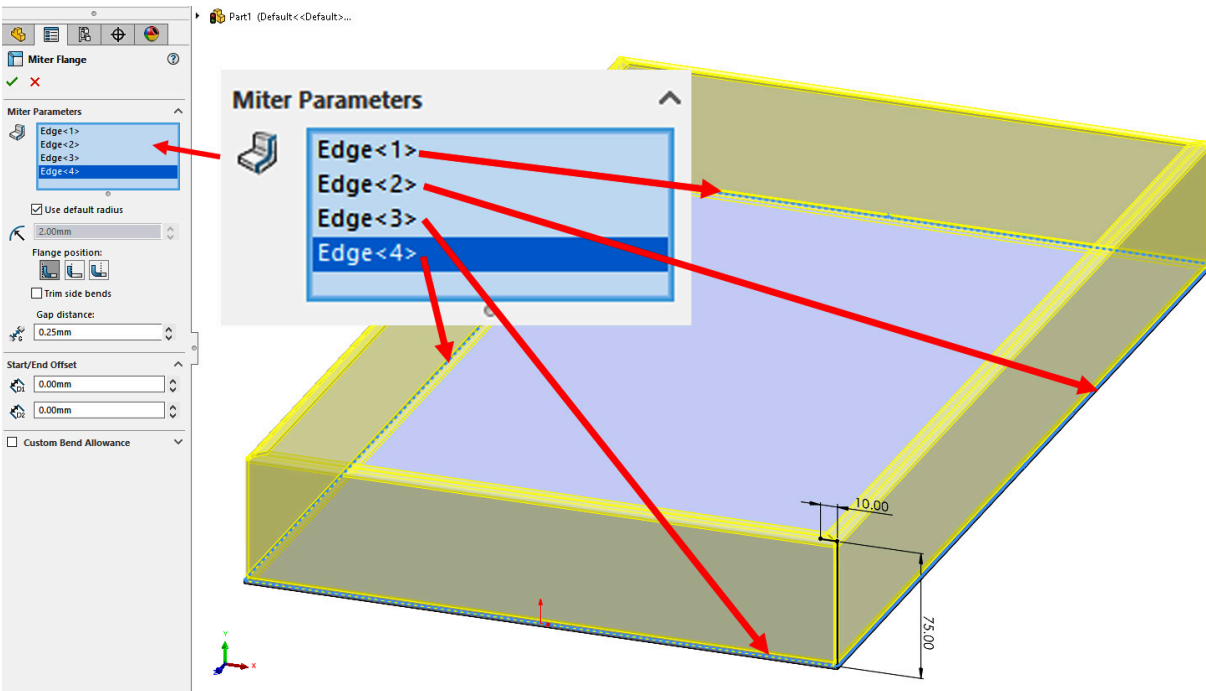

Figure 13.3 – Creating the Miter Flange
5. The sketch profile can now be used to create the flange. Select the **Miter Flange** tool (from within the sketch). Then, select the four edges of the **Base Flange** (*Figure 13.3*):